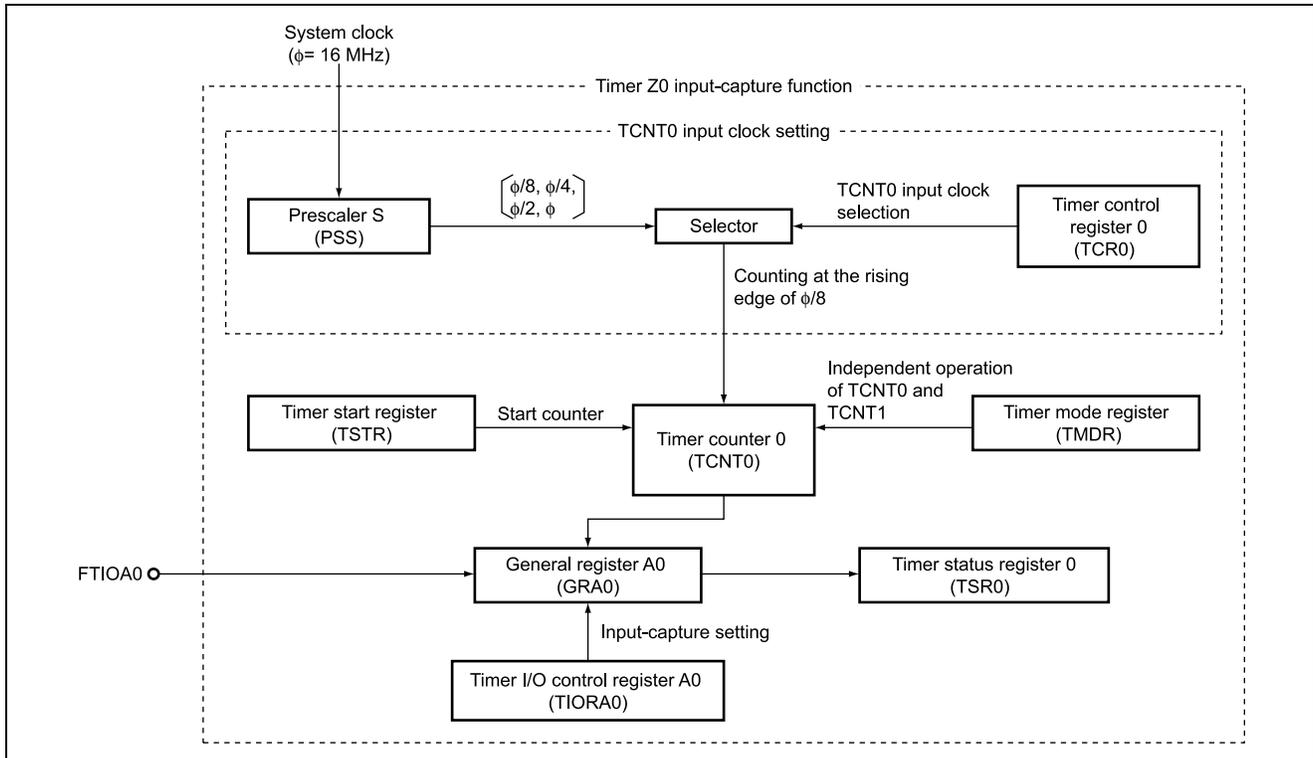

Figure 2.1 Block Diagram of Timer Z0
1. In this sample task, the timer Z input-capture function is used. Figure 2.1 is a block diagram of timer Z input-capture function. The elements of the block diagram are described below.